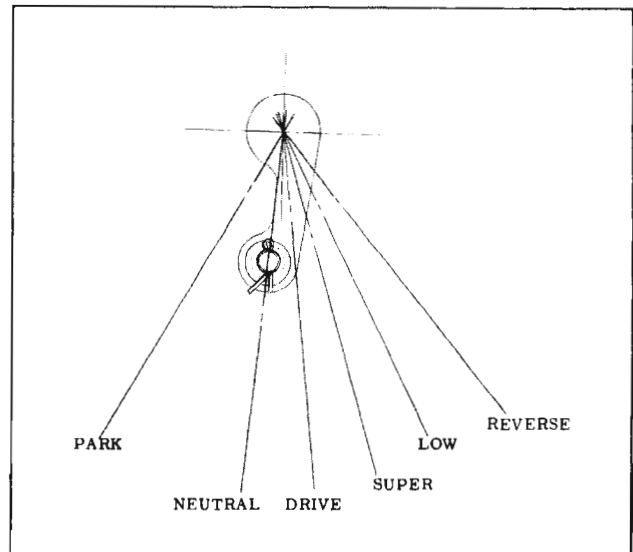

Fig. 13-112 Transmission Manual Lever Detent Positions
2. Loosen both locknuts on the manual rod and place the transmission manual lever in the "neutral" position. (Fig. 13-112)